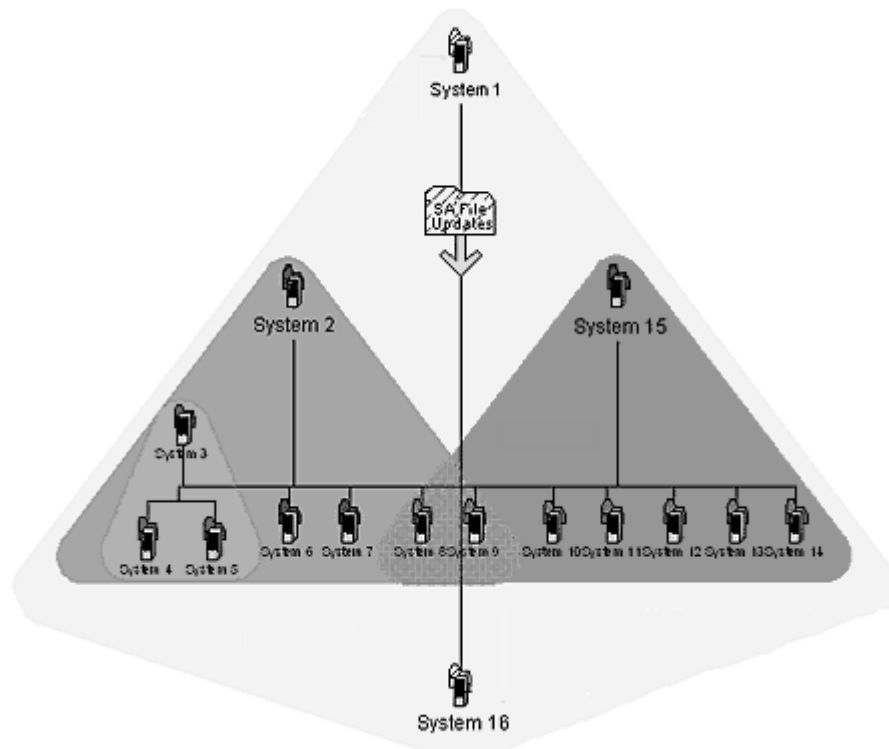

Figure 70: System16 as Backup Master
5. Click **OK** or **Apply** to save your changes. The backup master is created. The following process sets up the backup master (see Figure 70)